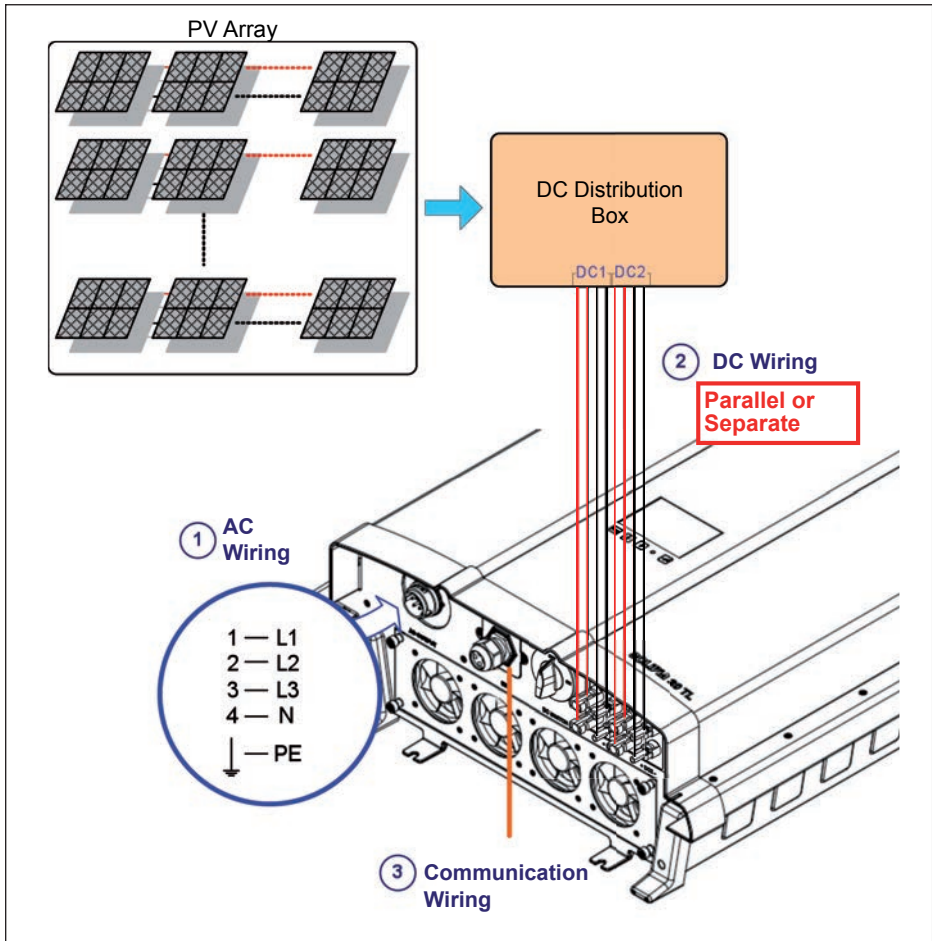

Figure 6.1.: Connection of system if DC inputs are floating
3. The wiring procedure of a PV system is shown in figure 6-1 and 6-2. Wiring details are described in the following paragraphs.
- When the DC input is floating, an external transformer is not necessary. Please refer to Figure 6-1 for the connection. The inverter can accept DC inputs in parallel (1 MPP tracker) or separate DC input connections (2 MPP Trackers).